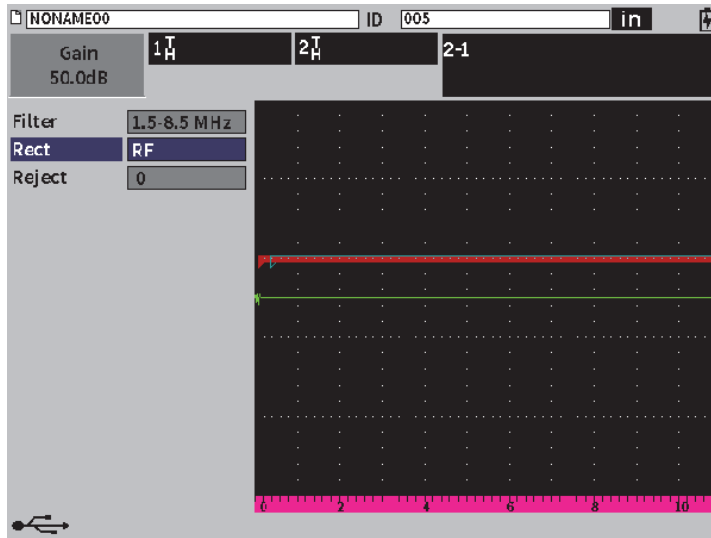

Figure 11-42 Receiver dialog box
2. In the receiver (**RX**) dialog box, set **Rect** to **RF** (see Figure 11-42 on page 203). The **Rect** setting enables you to view the positive and negative amplitude values.
3. Press ESC twice to dismiss the setup menu and view the echo-to-echo measurement in the live A-scan (see Figure 11-42 on page 203).